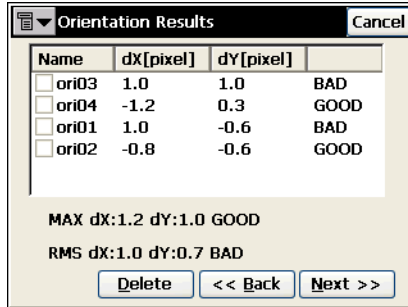

Figure 6-50. Orientation Results
- View the image orientation results on the *Orientation Results* screen (Figure 6-50). The results for each Orientation Point is displayed as dX and dY in image pixels.